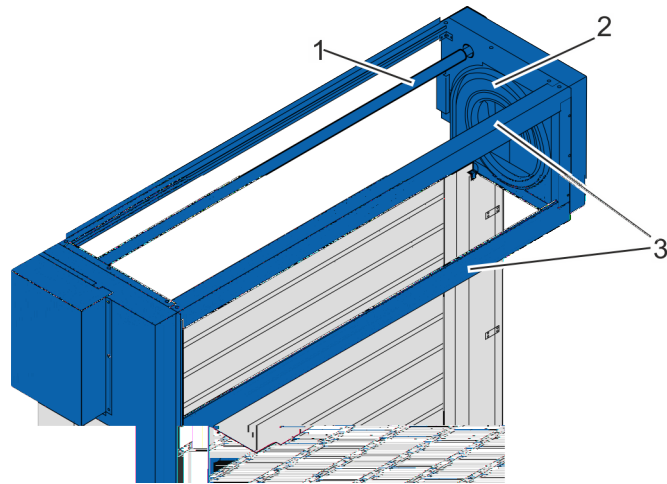

Fig. 8: Spiral case
- Synchronous shaft with bearing (Fig. 8/1)
- bevelled, main supports with spiral guide (Fig. 8/2) on both sides
- Sheet metal reinforcement profiles (Fig. 8/3)